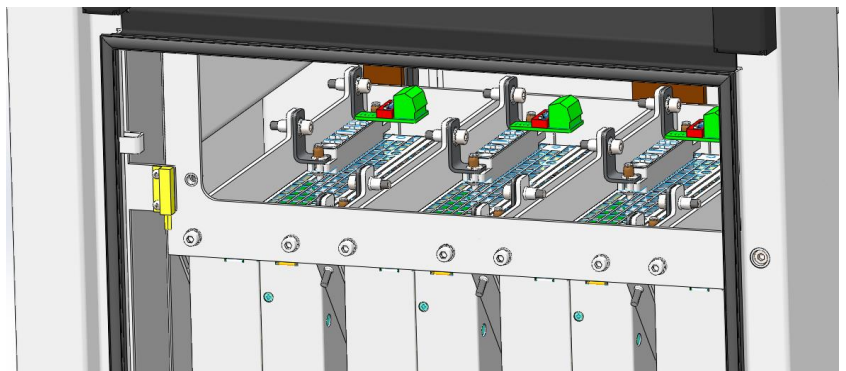

Figure 5.19. Connecting modules
11. Fasten the terminals with the previously removed fasteners (fig. 5.19).